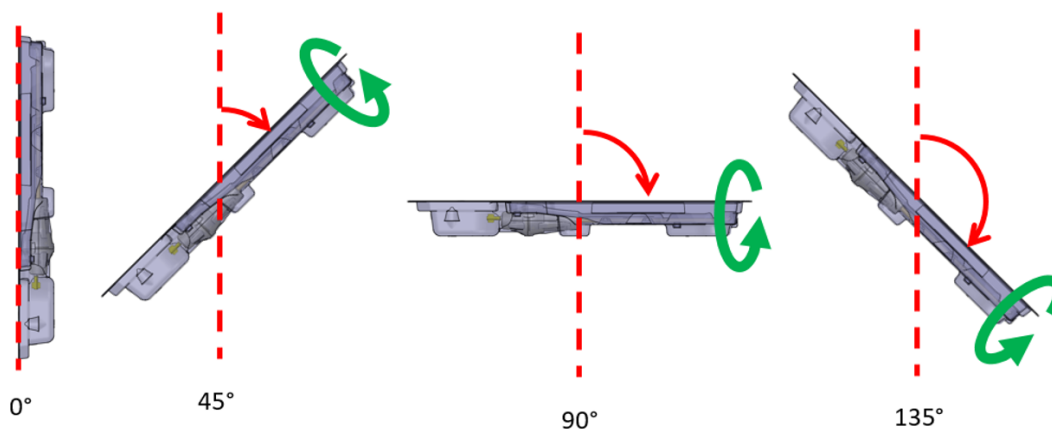

Figure 12: Recommended procedure for purging air from ultrasound applicator
- While the purging operation is on, hold the UA in its package—to keep the UA sterile, be careful not to touch the UA handle. Tip the package upwards in the 0° position, then tilt to approximately 45°, then 90°, and 135°. At each angle, slowly rotate the package approximately 360° and tap continuously along the packaging to dislodge any bubbles in the handle and shaft (*Figure 12*).